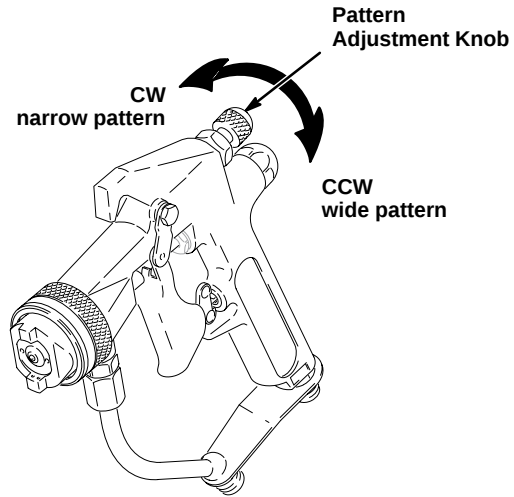

Fig 6
- 10 Close the gun's pattern adjustment valve by turning the knob **counterclockwise** all the way. This sets the gun for the widest pattern. See Fig 6.